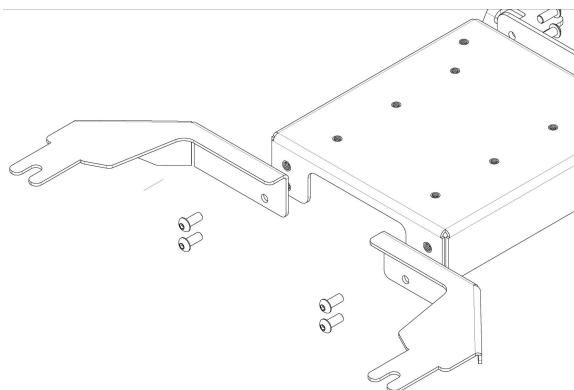
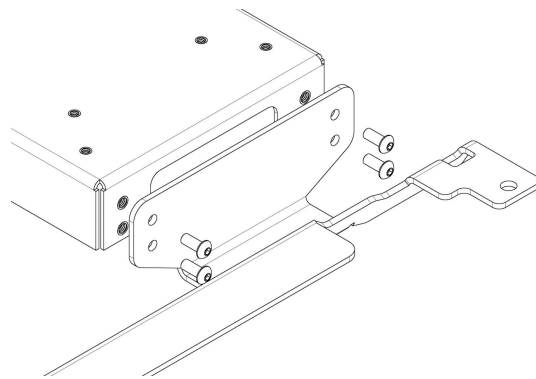

Figure 1a
Figure 1b
- A. Locate the Driver Front Leg [3GRK572121] and (2) Button Head screws [3X149].
- B. Align the Driver Front Leg with the corresponding holes on the driver side of the Base as shown in Figure 1a. Ensure that the two widest holes are opposite the front legs (refer to exploded view on the last page).
- C. Using a 3/16" Hex drive install the (2) screws gathered in step A.
- D. Repeat steps A - C on the passenger side of the base using the Passenger Front Leg [3GRK572122] and (2) Button Head screws [3X149].
- E. Locate the Rear Bracket [3GRK572130] and the remaining (4) Button Head screws [3X149].
- F. Align the Rear Bracket with the corresponding holes in the Base as shown in Figure 1b.
- G. Using a 3/16" Hex drive install the (4) screws gathered in Step E.